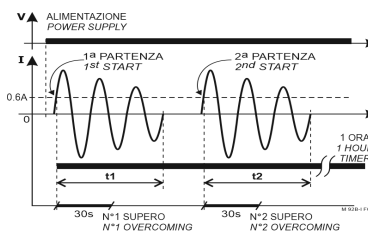

FIG. 2
**PROG. 10:** COUNTING of the STARTS in 1 hour. “START” means the “rising edge” of the I greater than 0,6A after the power supply (see Fig. 2).
When the I occurs for the first time (see Fig. 2), a TIMER of 1 HOUR ±10% starts and the device counts how many times has the I occurred, at the end of the HOUR, if the number of STARTS was 6, it adds a “1” to the cell P6. If the number is ≥ 14, it adds a “1” to the cell P14 (see TAB. 1).